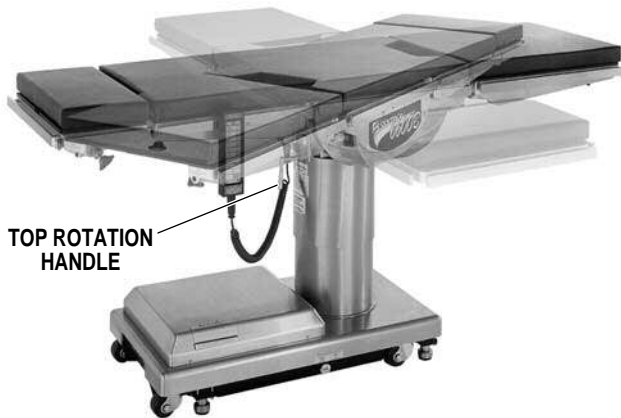

Figure 3-18. Top Rotation
a. The table top can be horizontally rotated 210° without having to rotate the entire table. Refer to figure 3-18. To rotate the top, turn the TOP ROTATION LOCK HANDLE counterclockwise to release, grasp the table by the head end and rotate the top counterclockwise. Lock the top in position by tightening the TOP ROTATION LOCK HANDLE clockwise.